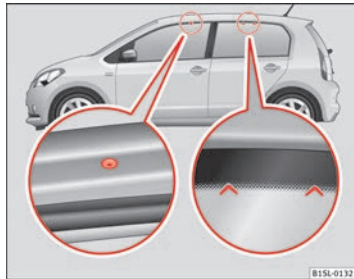

Fig. 70 Attachment points for the basic support and the roof carrier system
The front attachment opening can be found in the lower part of the sides of the roof and are fixed with plastic bolts → Fig. 70 (left magnified image). The openings can only be seen with the door open. The markings for attachment in the lower part are found in the upper part of the rear side windows → Fig. 70 (right magnified image).
- The base support should only be fitted to the points indicated in the diagram → Fig. 70.